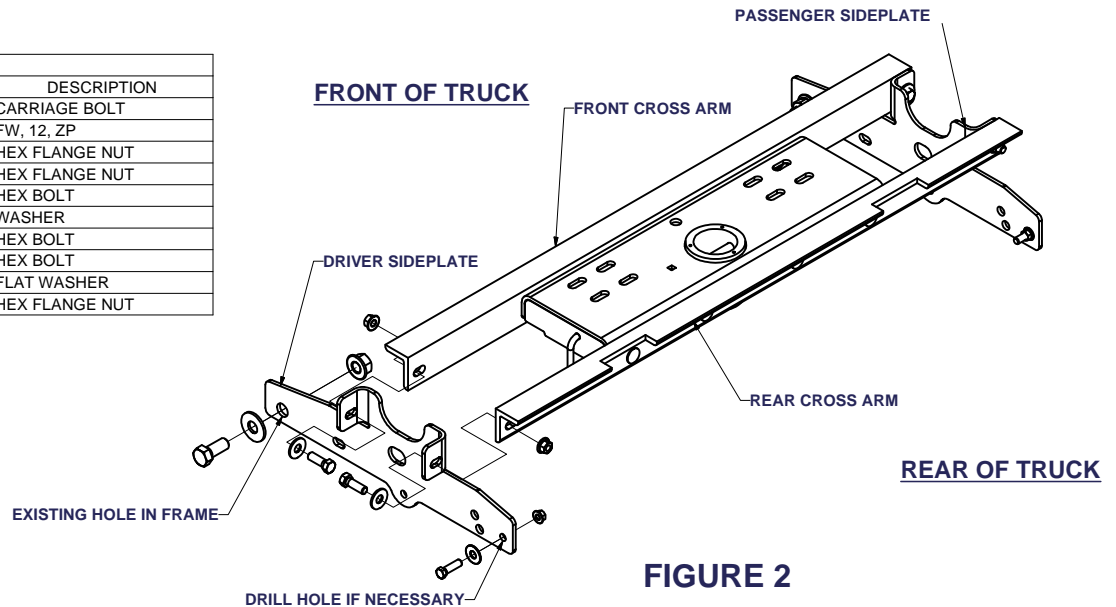

FIGURE 2
- 5) Raise the center section in position between the cross arms **with the ball cylinder towards the back of truck**. The round hitch receiver that protrudes from the top of the center section must fit through the hole in the truck bed. Using (8) 1/2" carriage bolts and flange nuts, attach the center section to the front and rear cross arms. **(Finger tight only.)**
- 6) Square the center section and cross arms across the frame. Place (2) 1/2" x 1 1/2" bolts with flat washers through the back and front flanges of each sideplate into the front and rear cross arms. (As shown in **Figure 2**) **Finger tight** with (2) 1/2" flange nuts. **(REPEAT FOR OTHER SIDE)**
- 7) Align one front hole and one rear hole on each sideplate to the existing holes in the truck frame. Using (2) 3/4" x 1 3/4" bolt with a flat washer and lock washer attach the front holes of sideplates to the truck frame. (As shown in **Figure 2**) **Finger tight** with a 3/4" nut. Using (2) 7/16" x 1 1/2" bolts, attach the rear most hole of the sideplates to the frame. (As shown in **Figure 2**) **Finger tight only** with a 7/16" flange nut. ****Drilling of this hole may be required on certain models!****